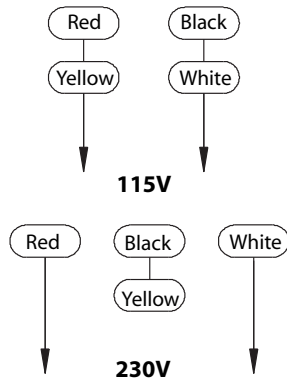

Figure 3 – Saw Motor Wiring Diagram
6. Rewire saw motor to 230 volts (See Figure 3).